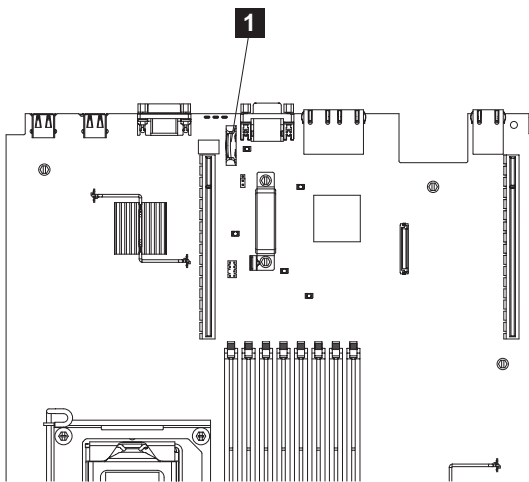

Figure 129. Location of the SAN Volume Controller 2145-CG8 or 2145-CF8 CMOS battery holder
7. Locate the battery **1** on the system board. Figure 129 shows the location of the battery.